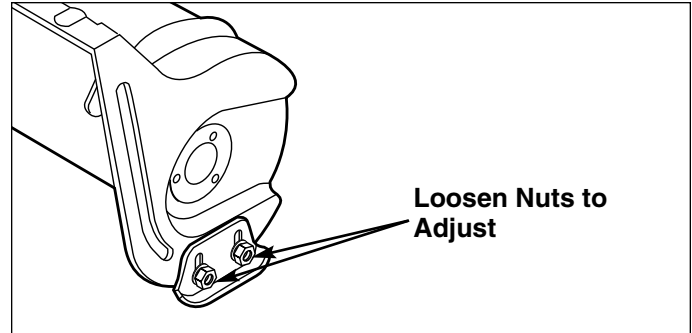

Figure 5. Adjusting Skid Shoes
1. Loosen the nuts securing the skid shoes (see Figure 5).